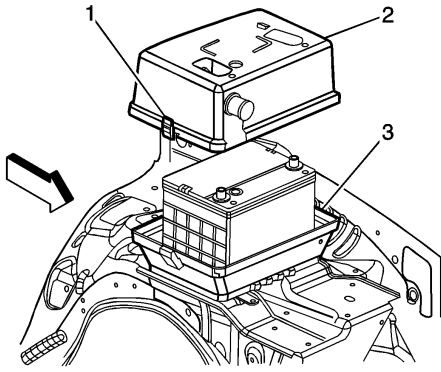

Fig. 2 Upper battery box removal
10. Press locking tabs (1) inward, and remove upper battery box (2) from lower battery box (3), Fig. 2.
3. Install upper battery box (2) over battery, and engage locking tabs (1) into lower battery box (3), Fig. 2.